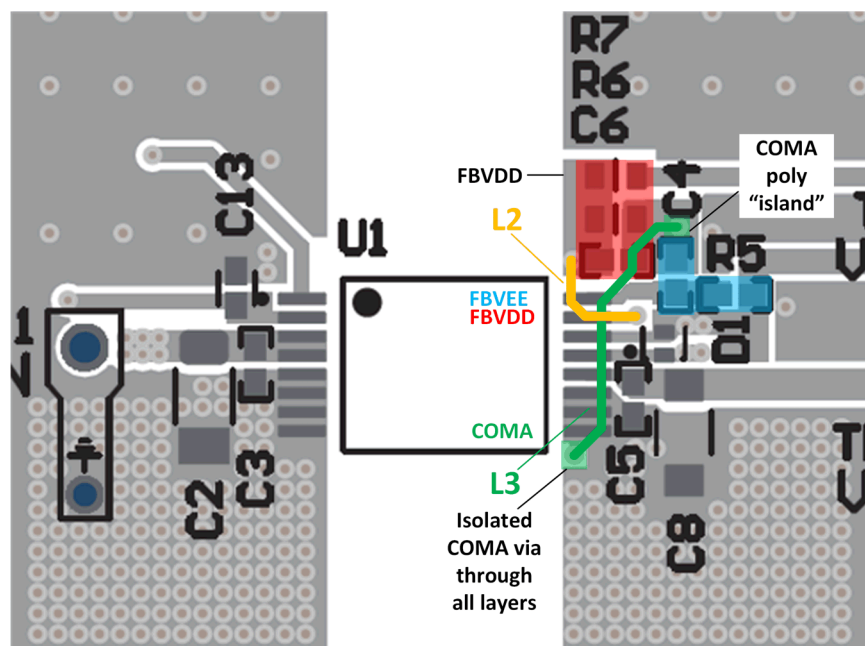

Figure 3-9. FBVDD (R6-7, C6), FBVEE (R5, C4), COMA Routing
- f. A layout example is shown in Figure 3-9, where L2 (yellow) is routed on layer 2 and L3 (green) is routed on layer 3.